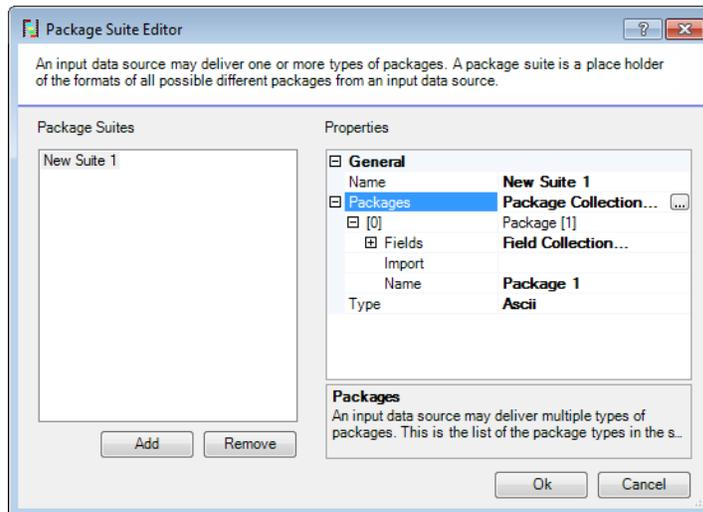

Figure 20: Package Suite Editor Window
2. Click **Add** to insert a new package suite (*Figure 20*).
- 2) Click **OK** to return to the *Package Suite Editor* window (*Figure 20*).
- 6) Click **OK** twice to return to the *Package Suite Editor* window (*Figure 20*).